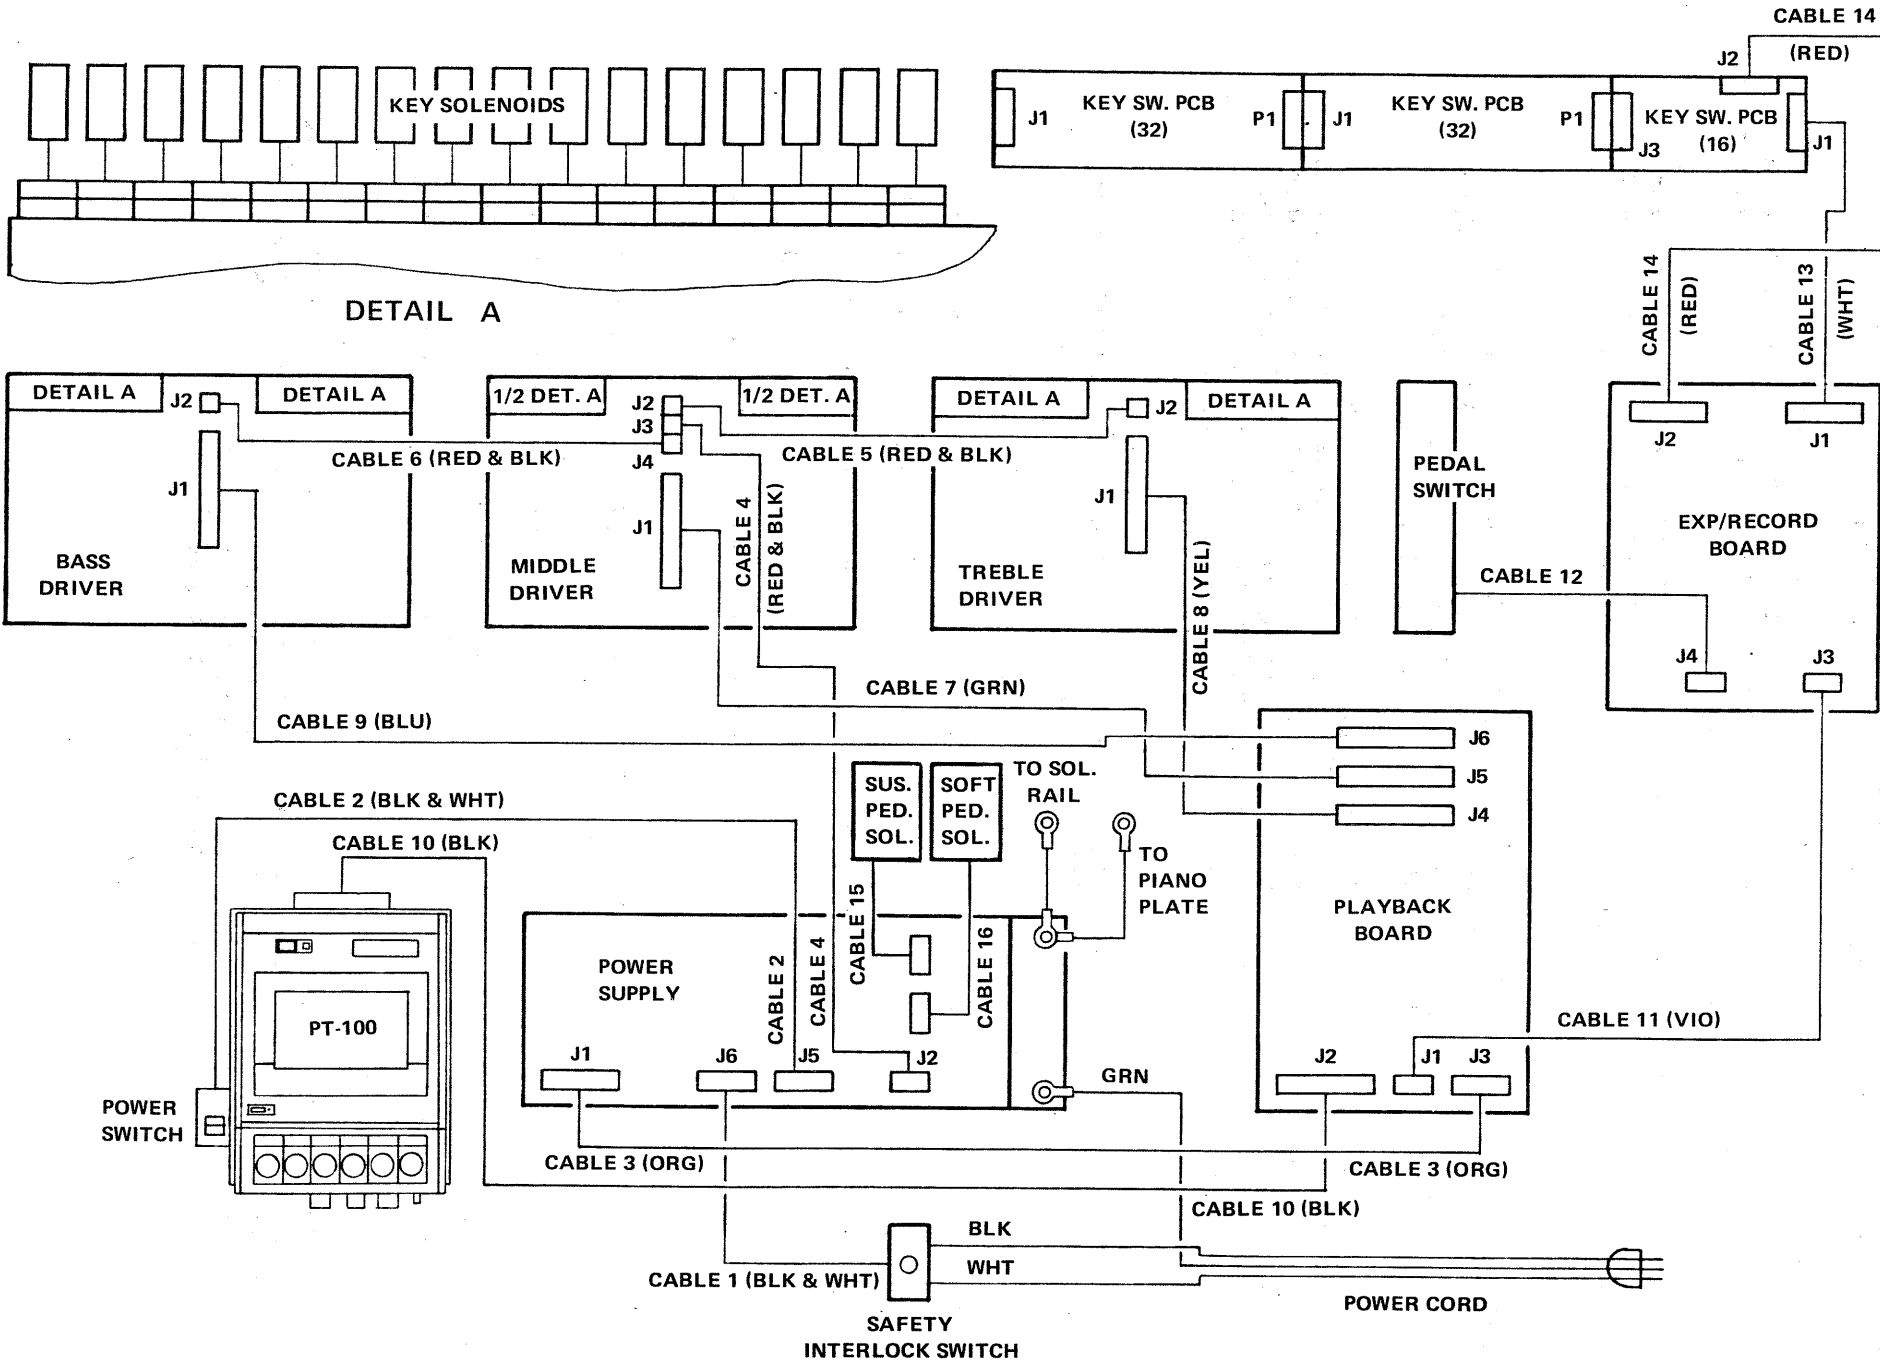

FIGURE 7-12 Interconnecting Wiring Diagram
4. FIGURE 7-12 on the previous page is the Interconnecting Wiring Diagram for the PIANOCORDER System. Please study this illustration carefully to give yourself an idea of system wiring. Although each Step in the wiring process will be accompanied by a simplified diagram, refer to this illustration for an overall view of system wiring occasionally.